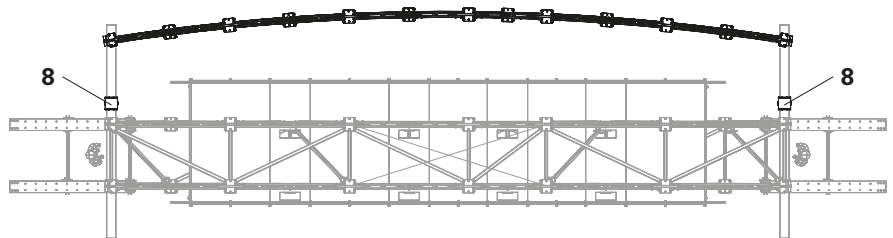

Fig. C6.01
2. Ensure that the deflection in the truss girder frame is in an outward direction. (Fig. C6.01)